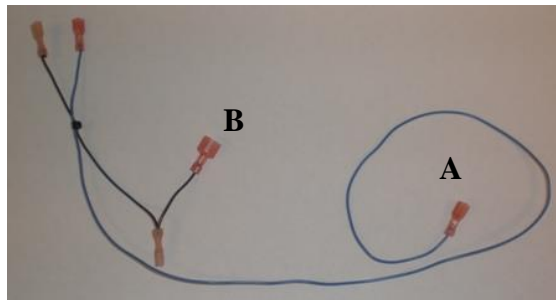

Figure 12C
33. Attach the end of the blue wire (labeled A, Figure 12C) to the “5” pin on the back of the factory wiring harness plug (Figure 12D). The “5” is marked on the black part above the pin on the factory wiring harness.
34. Connect the end of the black wire (labeled B, Figure 12C) to the #4 motor common wire (Figure 12E). The common wire will be labeled with a “G” and will be the larger of the two terminals. Wrap with electric tape to cover the exposed section where the expansion harness connects to the factory harness. When completed the assembly will appear like in Figure 12E.